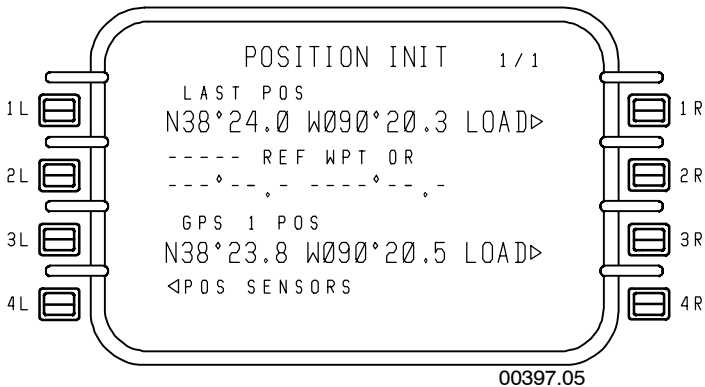

Figure 6-209
- **POSITION INIT 1/1** – Figure 6-209 is used to initialize the FMS position. This page is accessed from the NAV IDENT page or from the NAV INDEX page.
- PROMPTS - If none of the above waypoints are displayed, the FMS displays prompts. This is shown in Figure 6-209.